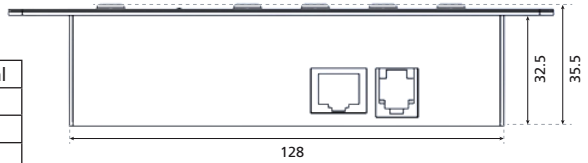
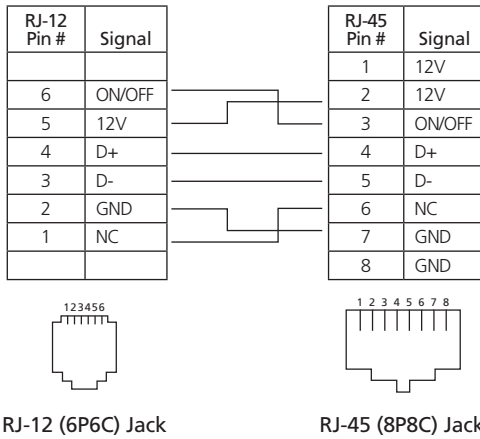

Fig 1.1 Layout and dimensions of Remote Control Model EVO-RC PLUS
Fig 1.3 Pinout and internal interconnections of RJ-45 and RJ-12 (6P6C) Jacks on EVO-RC-PLUS
RJ-45 Jack (10, Fig 1.1) and RJ-12 Jack (11, Fig 1.1) are internally connected as pinout at Fig 1.3.
Please refer to the layout at Fig. 1.1.
- c) Before proceeding, confirm that the unit is NOT in "Standby" Mode. If it is in "Standby Mode", the "Status" LED (3, Fig 1.1) will flash once every 5 sec and the LED screen will display one of the "Standby Mode" Screens show in Figs 3.1(a) / 3.1(b). Press the On/Off Push Button (2, Fig 1.1) on the EVO-RC-PLUS to exit the "Standby Mode" to the current operating mode. Refer to Section 3.4 for more details on "Standby Mode".